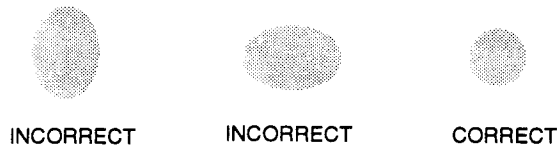

FIGURE 9-41. Astigmator adjustment pattern.
- ⌘ Adjust the astigmator ring, (one closest to the lens end), by rotating and turning the knob for best roundness of the dots. See Figure 9-41